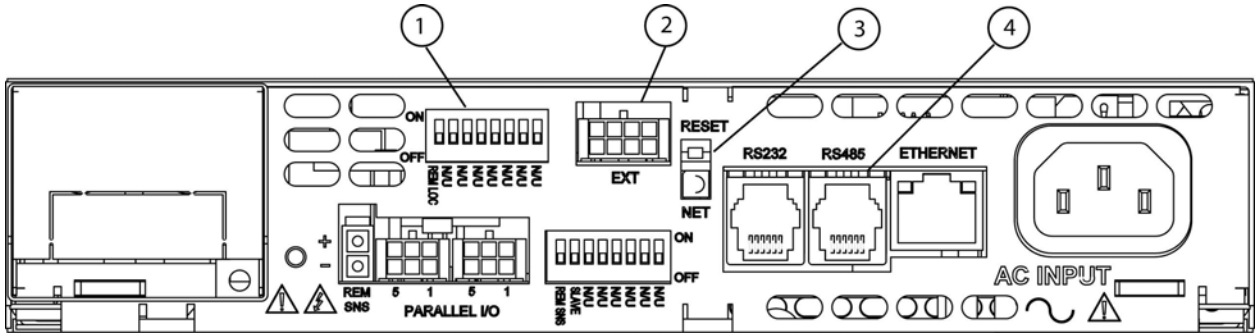
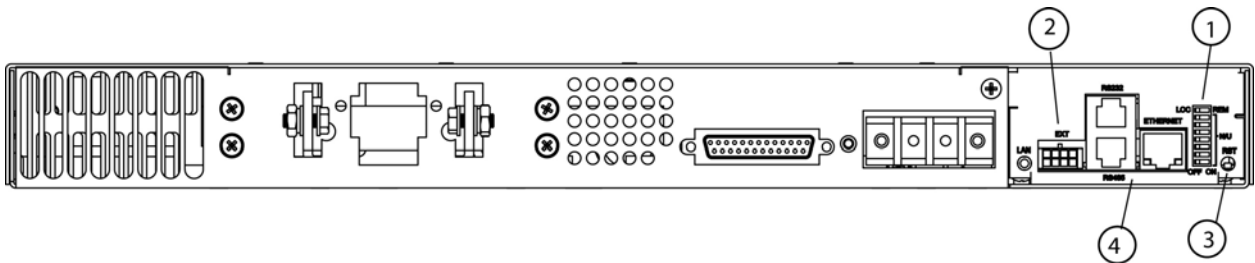
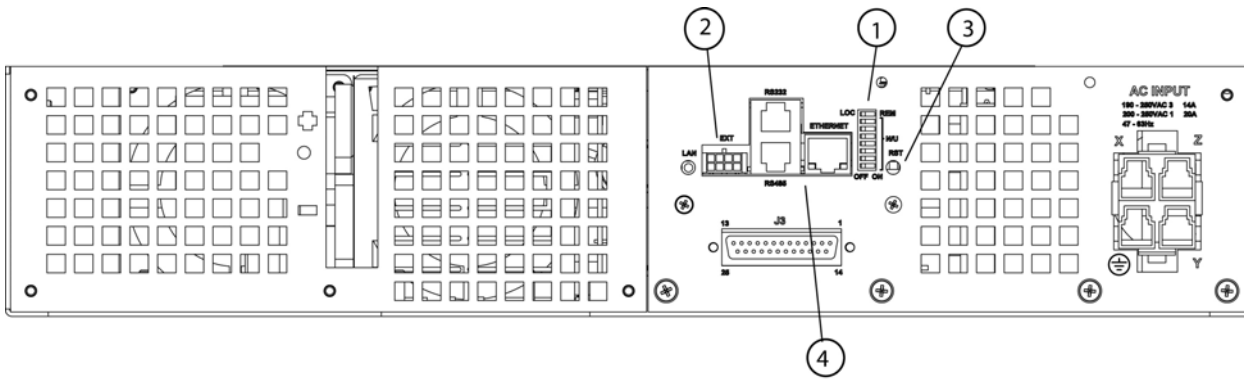

Figure 2-2. Typical Rear Panel of M130 Ethernet Option for DLM600
Figure 2-3. Typical Rear Panel of M130 Option for DCS1k and DCS1.2k
Figure 2-4. Typical Rear Panel of M130 Option for DCS3k
1. Connect from the PC COM1 port to the power supply's RS232 port (see Figure 2-2, Figure 2-3 or Figure 2-4 for port location) using a straight-through DB91 to RJ-1 connector. (See Section 2.5 for the wiring diagram).
Figure 2-2 through Figure 2-4 display the pertinent rear panel components of a typical M130 Ethernet option for the DLM600 and the DCS masters.